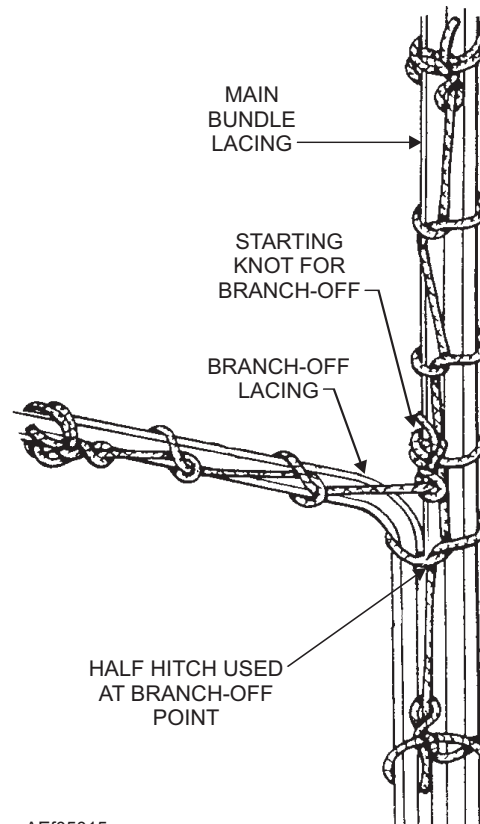

Figure 5-15.—Lacing a branch-off.
1. Start the branch-off by lacing with a starting knot located on the main bundle just past the branch-off point. See figure 5-15. When using single-cord lacing, make the starting knot the same as regular single-cord lacing. When using double-cord lacing, use the double-cord lacing starting knot.